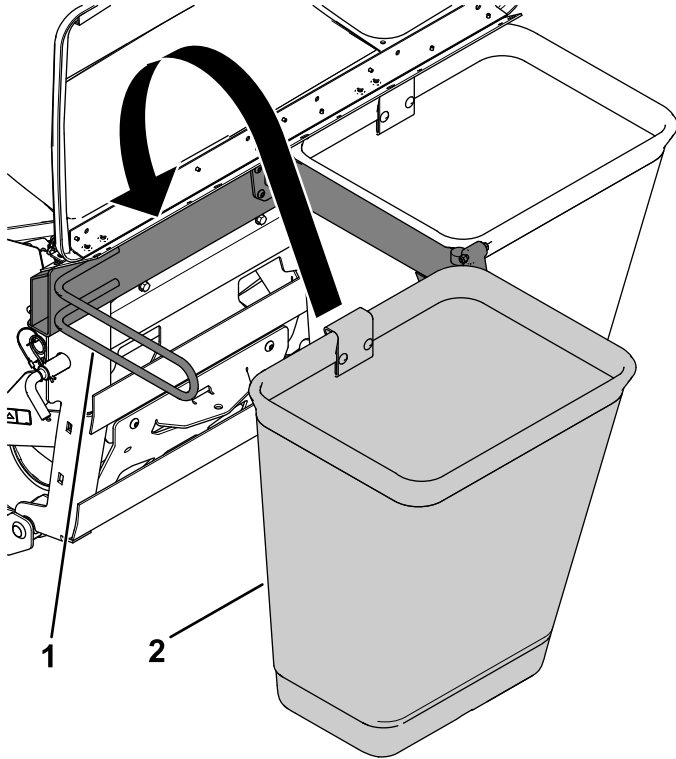

Figure 13
1. Hook the bag to the bagger frame (Figure 13).